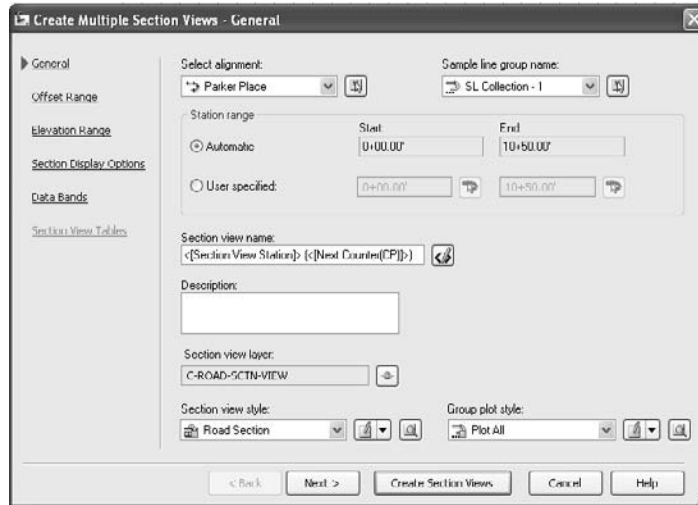

Figure 11.23
2. Choose `Sections → Create Multiple Section Views`. The `Create Multiple Section Views → General` dialog appears, as shown in Figure 11.23. This dialog is very similar to the `Create Section Views` dialog with a few key differences.